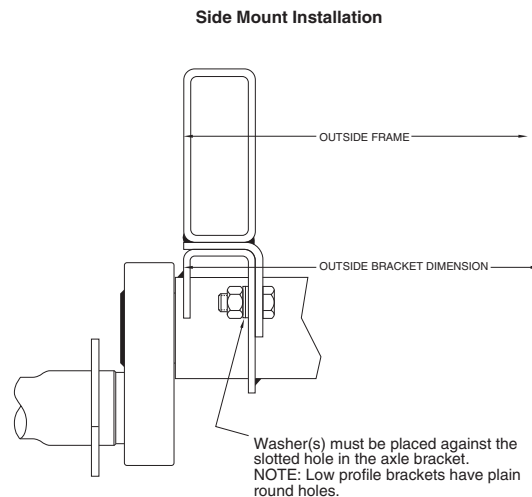

Figure 1
Step 2: Determine the method of attachment you wish to use. a. For structural tube type frame rails, refer to Figure 1 for the recommended attachment. b. For “C” channel or “I” beam type frame, refer to Figure 2.